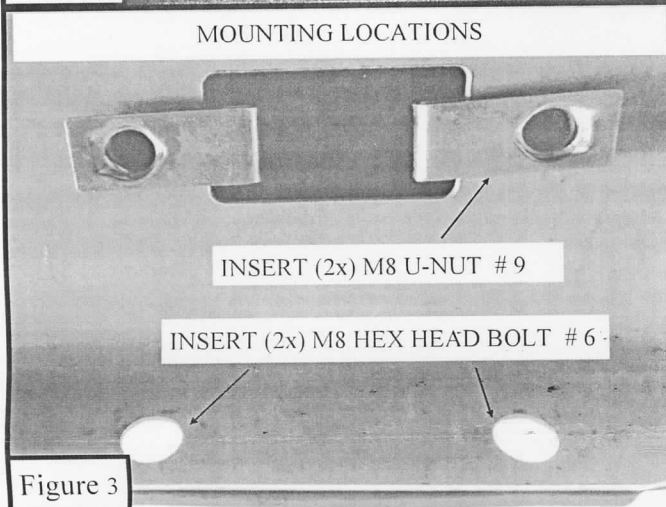

Figure 3
- Starting on the drivers side rocker panel, locate a piece of black tape. Remove the tape to reveal a rectangle hole. Take (2) M8 nut clips (item 9) and place them over the two round holes located vertically into the rocker panel. **Figure 3.**